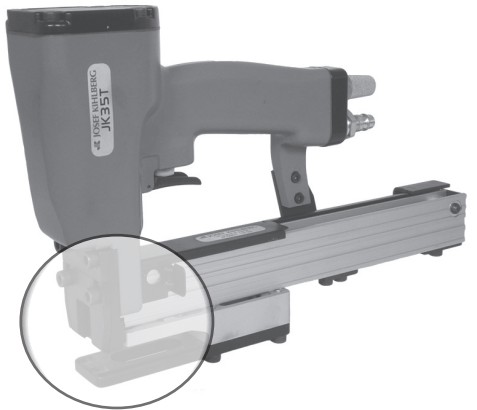

Fig. 6
- Unscrew the two front screws two turns (Fig. 6/1).